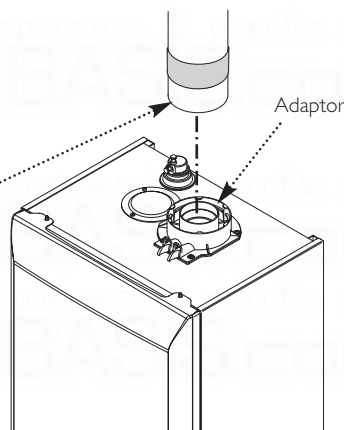

Fig. 46
17. Engage the extension into the adaptor up to this position (Fig. 46). Once the installation of the flue is complete and all support brackets are securely in place remove the tape.